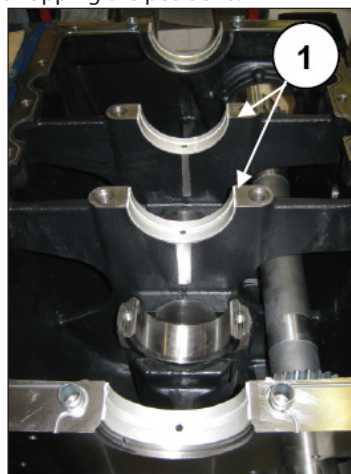
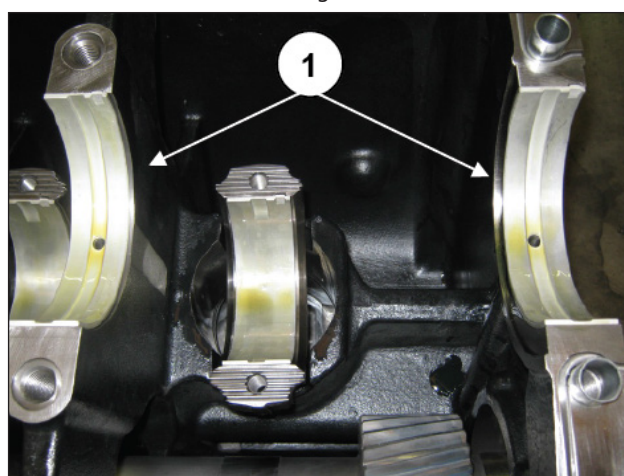

Fig. 37
Fig. 38
Keep the main bearing shells (pos. ①, Fig. 37 and Fig. 38) in their seats in the front casing to avoid the risk of inadvertently swapping the positions.